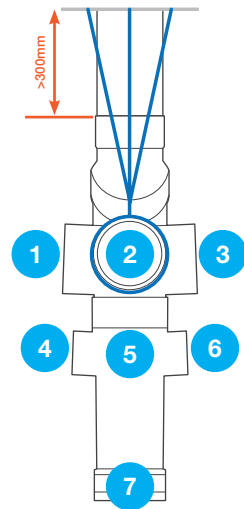

Figure 7
- 8.1.2.2** A single M10 welded Nut Clip tightly secured tightly to the moulded inlet at both position (2) and position (7) on the Converge aerator (see Fig. 7)